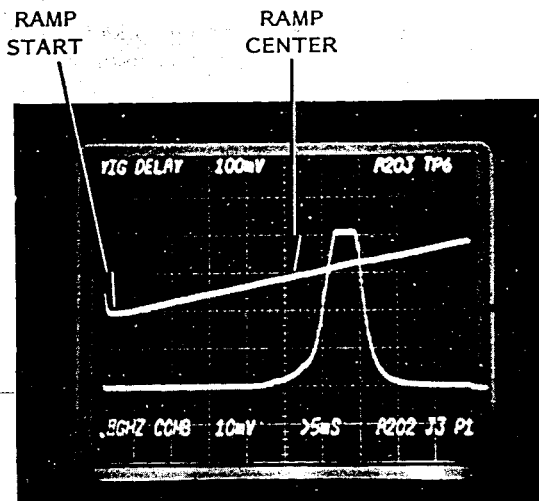

FIGURE 6-6
(3) Set time base to variable (approx. 5 ms/div) and externally trigger oscilloscope from A203P1 pin 12 (DAC 2 ENABLE). Adjust oscilloscope time base so DAC 2 ramp occupies the full screen.
(4) Adjust A202R16 so the 50% point of the leading edge of the video pulse occurs one division to the right of center of the DAC 2 ramp as shown in Figure 6-6. Note that the point marked "Ramp Start" is 3 ms after DAC 2 ENABLE, and that the point marked "Ramp Center" is *not* the center of the display.